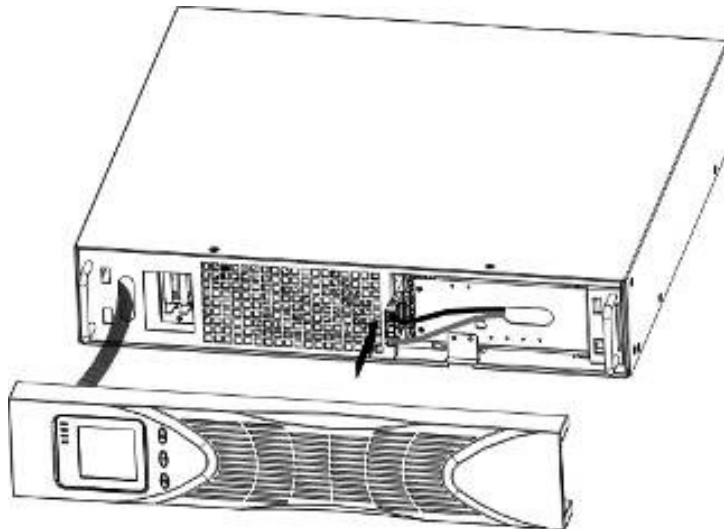

Figure 6 Connecting the UPS Internal Batteries
- b) Connect the internal battery connector (see Figure 6)